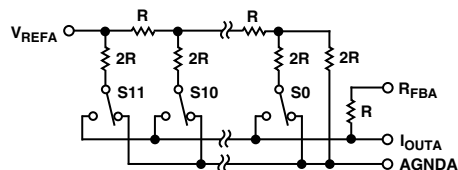
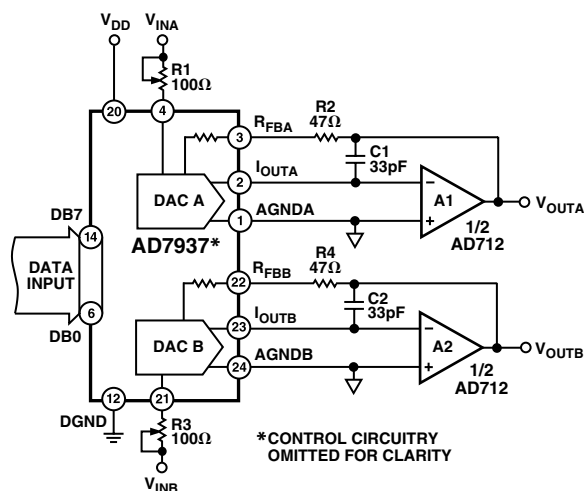

Figure 2. Simplified Circuit Diagram for DAC A
Figure 4. Unipolar Binary Operation
The AD7937 contains two identical 12-bit multiplying D/A converters. Each DAC consists of a highly stable R-2R ladder and 12 N-channel current steering switches. Figure 2 shows a simplified D/A circuit for DAC A. In the R-2R ladder, binary weighted currents are steered between IOUTA and AGNDA. The current flowing in each ladder leg is constant, irrespective of switch state. The feedback resistor RFBA is used with an op amp (see Figures 4 and 5) to convert the current flowing in IOUTA to a voltage output.
Figure 4 shows the circuit diagram for unipolar binary operation. With an ac input, the circuit performs 2-quadrant multiplication. The code table for Figure 4 is given in Table II.
Table II. Unipolar Binary Code Table for Circuit of Figure 4
**Output Offset:** CMOS D/A converters in circuits such as Figures 4 and 5 exhibit a code-dependent output resistance which in turn can cause a code-dependent error voltage at the output of the amplifier. The maximum amplitude of this error, which adds to the D/A converter nonlinearity, depends on  $V_{OS}$ , where  $V_{OS}$  is the amplifier input offset voltage. To maintain specified operation, it is recommended that  $V_{OS}$  be no greater than  $(25 \times 10^{-6}) (V_{REF})$  over the temperature range of operation. Suitable op amps are the AD711C and its dual version, the AD712C. These op amps have a wide bandwidth and high slew rate and are recommended for wide bandwidth ac applications. AD711/AD712 settling time to 0.01% is typically 3  $\mu$ s.
**Temperature Coefficients:** The gain temperature coefficient of the AD7937 has a maximum value of 5 ppm/ $^{\circ}$ C and typical value of 1 ppm/ $^{\circ}$ C. This corresponds to worst case gain shifts of 2 LSBs and 0.4 LSBs respectively over a 100 $^{\circ}$ C temperature range. When trim resistors R1 (R3) and R2 (R4) are used to adjust full scale range as in Figure 4, the temperature coefficient of R1 (R3) and R2 (R4) should also be taken into account.
**High Frequency Considerations:** AD7937 output capacitance works in conjunction with the amplifier feedback resistance to add a pole to the open-loop response. This can cause ringing or oscillation. Stability can be restored by adding a phase compensation capacitor in parallel with the feedback resistor. This is shown as C1 and C2 in Figures 4 and 5.